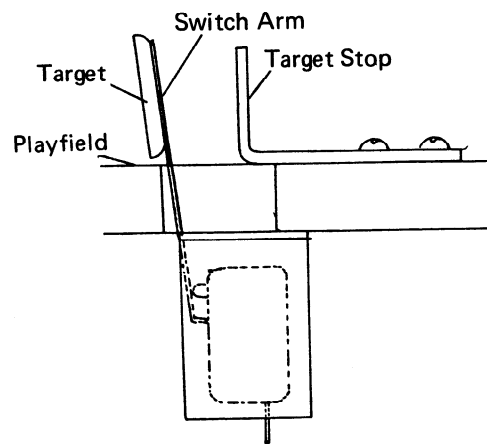

FIGURE 22
31. Adjust Target Switch: (Figure 22). This switch should click when the target is pushed back to about $\frac{1}{4}$ inch away from target stop. The switch should also click when returned to its original position. To adjust switch, bend switch arm forward or back.